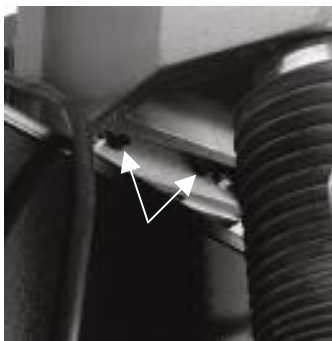

Figure 29
- 1. FRONT TO REAR HEAD TILT ADJUSTMENT:** Loosen two 7/16 cap screws (5/8 Hex) and turn the pair of socket head cap screws in or out to obtain desired tilt, (Figure 29).